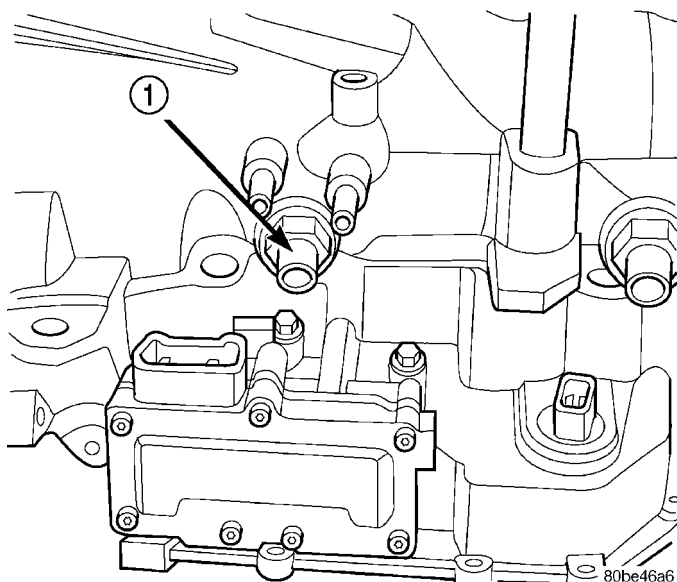

Fig. 282 Input Speed Sensor
(5) Remove input speed sensor (Fig. 282).
(3) Install input speed sensor (Fig. 282) and torque to 27 N·m (20 ft. lbs.).